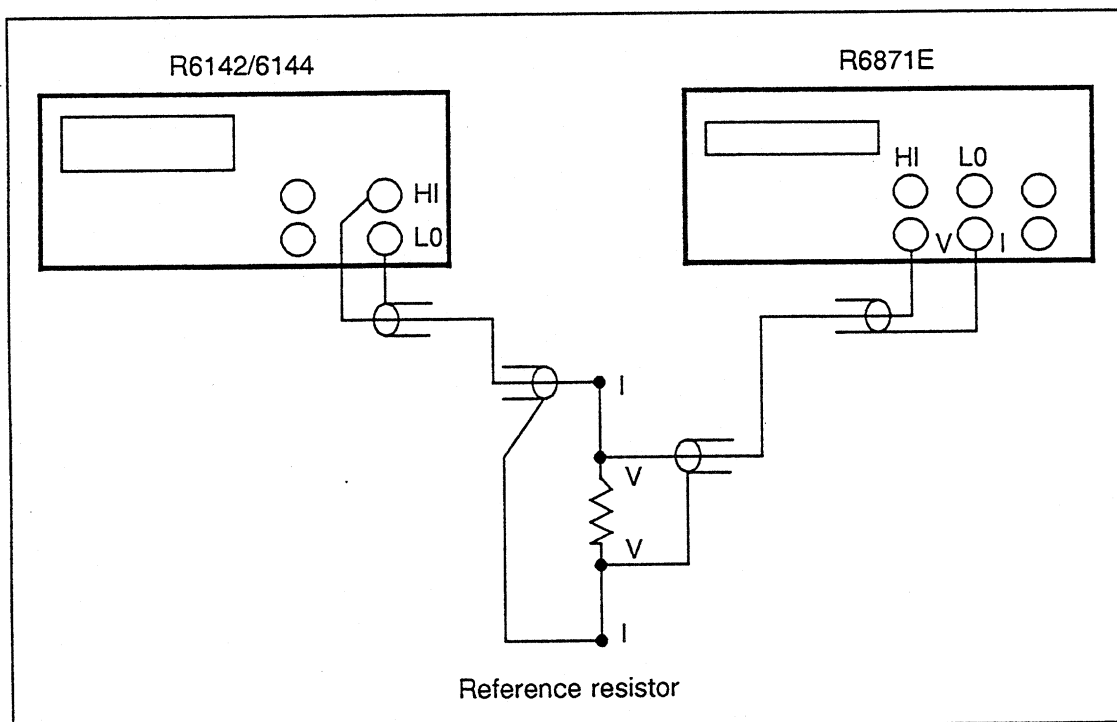

Figure 4-2 Cable Connection for Output Current Test
- ① Connect the R6142/6144 to the R6871E as shown in Figure 4-2.